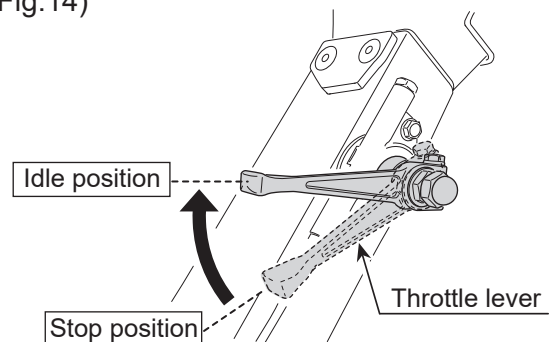

Fig.14
- 1 Open the throttle lever to the idling position. (Fig.14)